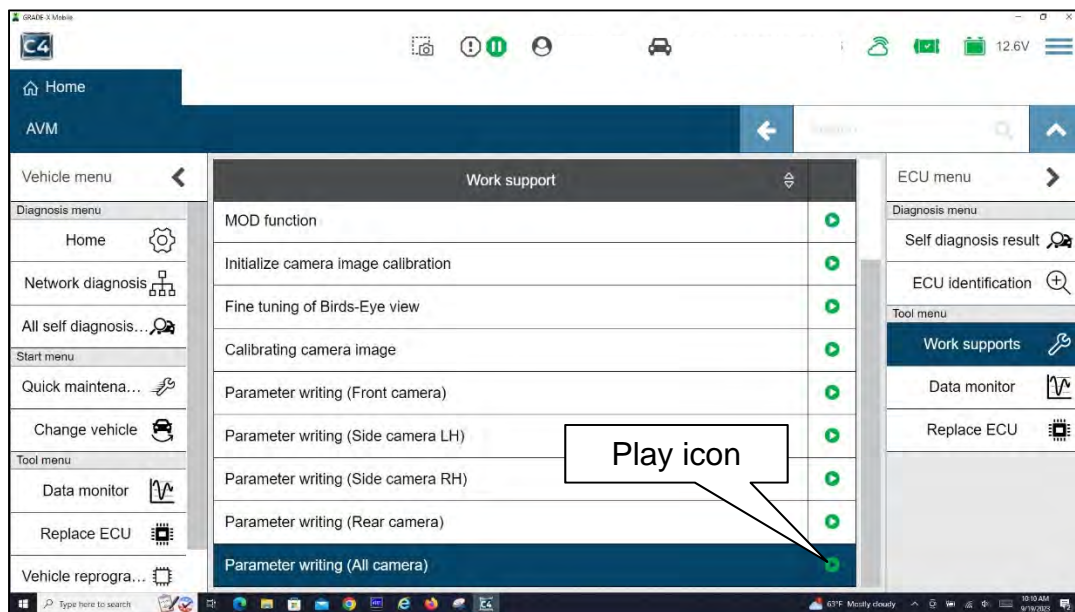

Figure 15
14. Select **Parameter writing (All camera)**, and then select the green Play icon (Figure 15).